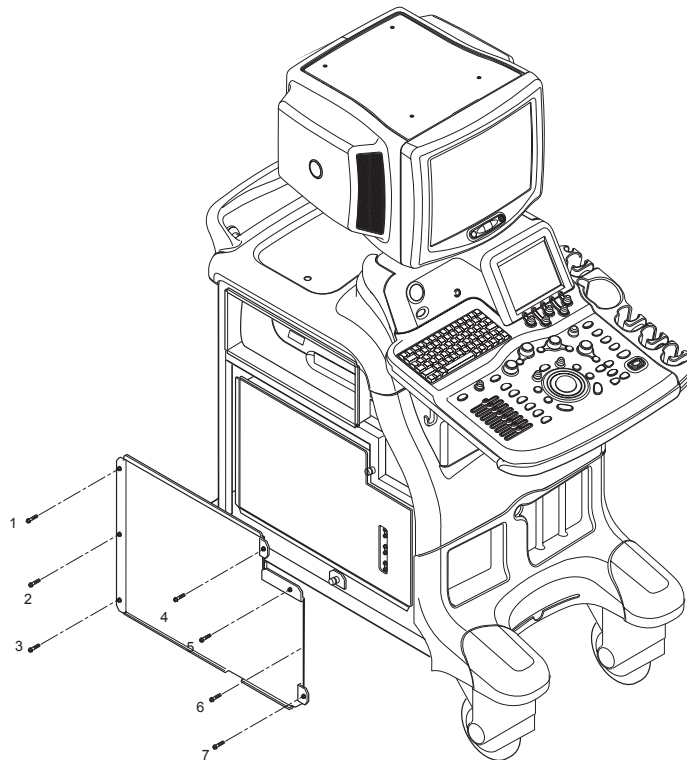

Figure 8-66 Removing the EMI Cover L
- 3.) Remove the EMI Cover L. Refer to Figure 8-66 on page 8-50 .